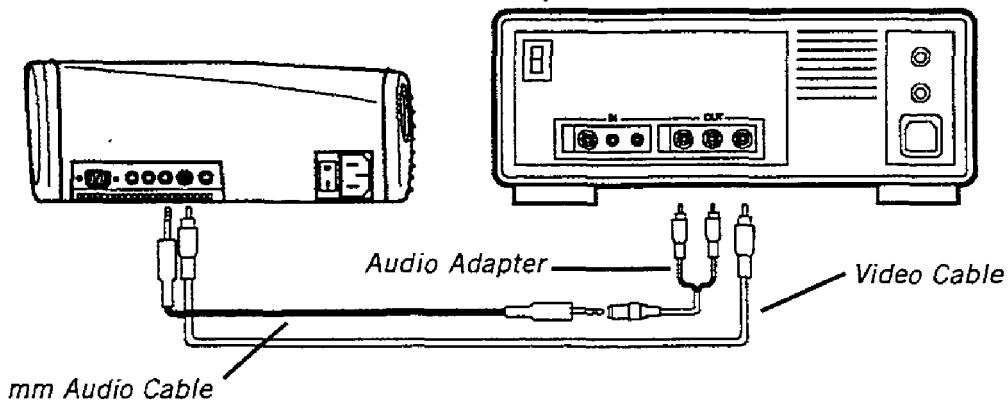

Figure 4: Connecting to a Video Player
- 2 Connect the other end of the composite video cable to the video input connector of the projector. See figure 4.
- 2 Connect the other end of the 3.5 mm cable to the supplied 3.5mm to dual RCA adapter and connect the adapter to the video player audio output. See figure 4.